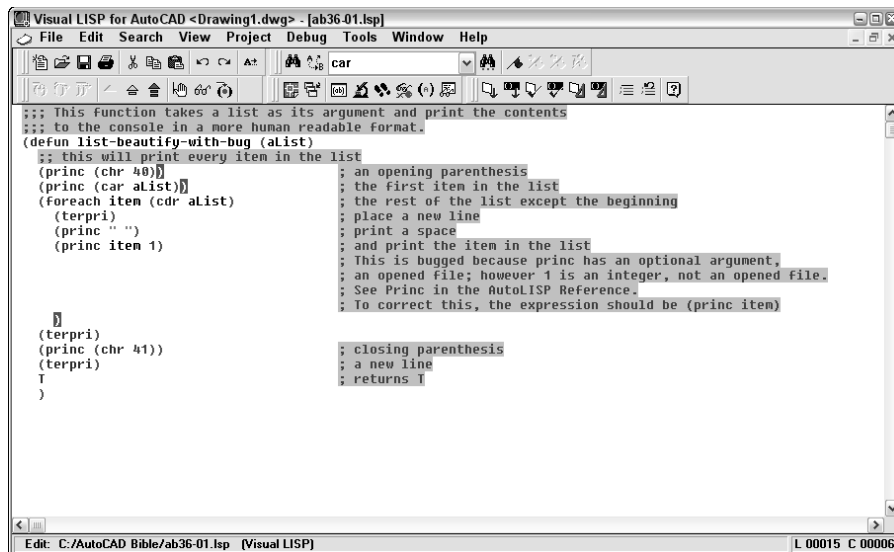

**Figure 36-3:** Your code should look like this after you place three break points.
9. Place another break point after `(princ (car aList))`. Finally, place a third break point after the closing parenthesis on the line that follows `(princ item1)`. Your code should look like Figure 36-3.